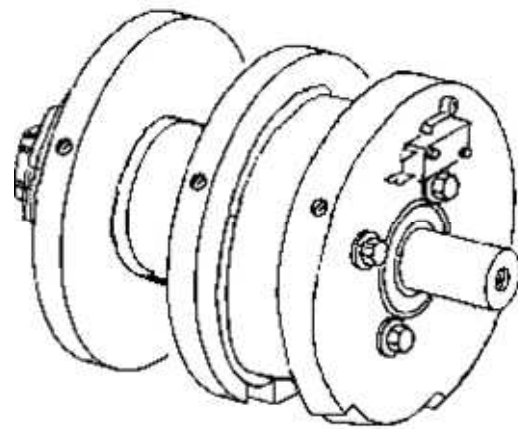

fig. 4.14
- Remove the head fixing flange (fig.4.14).